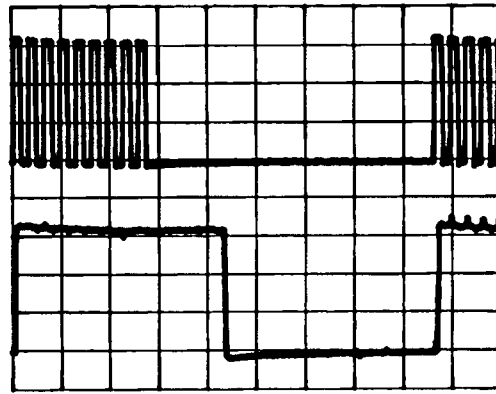

Figure 8-33. XA2A11A-19, CYCLE
9. Connect channel 2 of the oscilloscope to XA2A11A-19, CYCLE. The waveform should be as shown in figure 8-33.